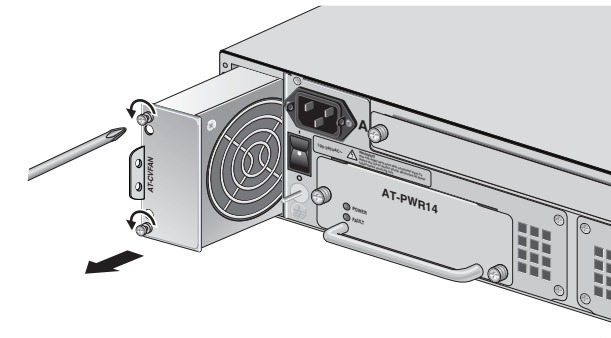
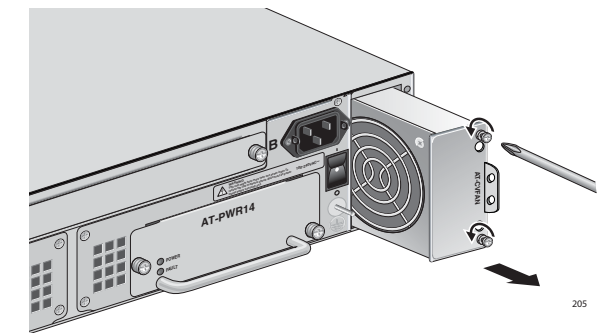

Figure 3. Removing an AT-CVFAN Module from the Fan Slot A
Figure 4. Removing an AT-CVFAN Module from the Fan Slot B
3. Pull the loosened screws to slide the fan module out of the chassis, as shown in Figure 3 or Figure 4.